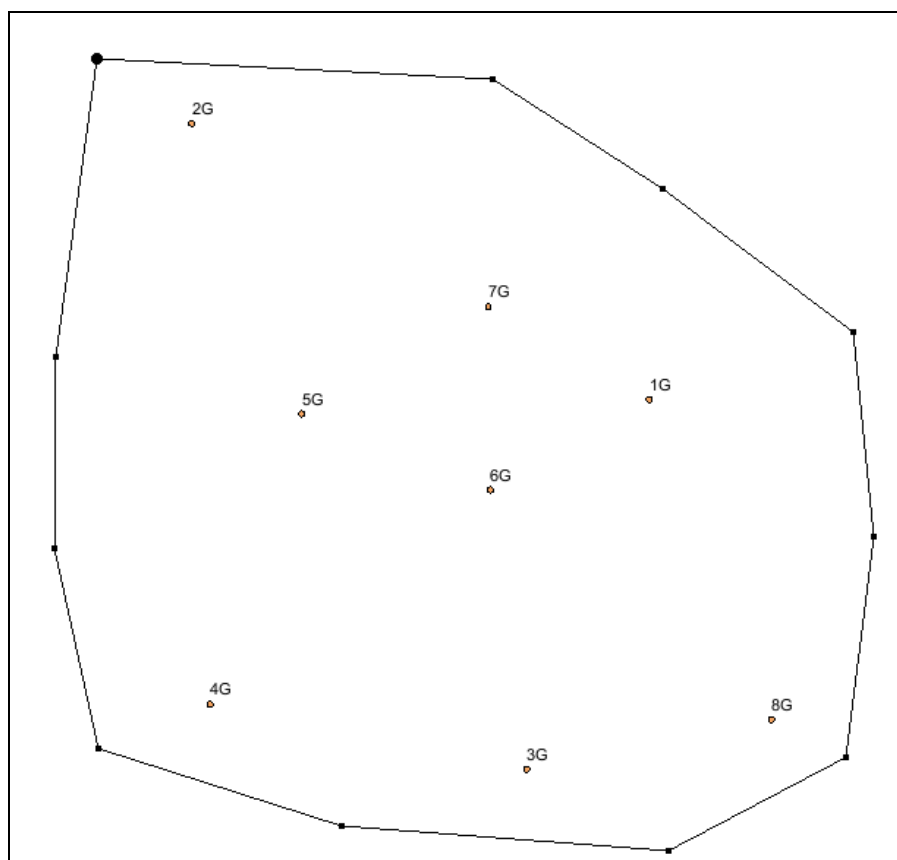

Figure 10 Map polygon surrounding boreholes
6. Using the **Create Arc**  tool, click out a closed arc surrounding all of the boreholes, as in Figure 10. Click on the starting point to close the polygon.